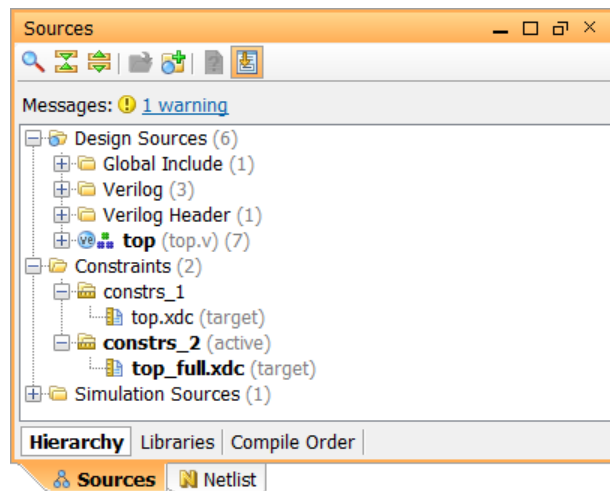

Figure 22: Sources Window
1. If the Sources window is hidden from view, display it by selecting **Window > Sources**, or selecting the Sources tab as shown in Figure 22.